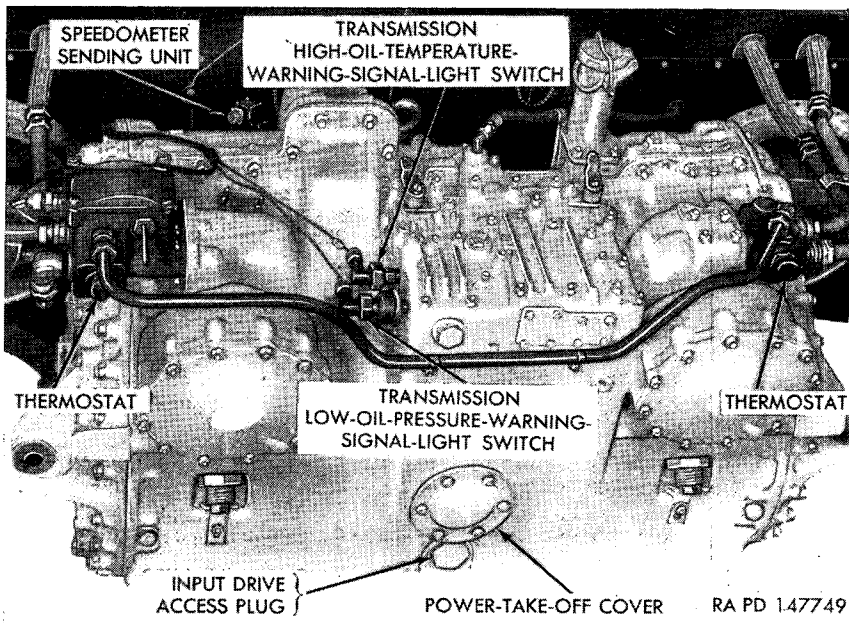

Figure 220. Transmission—rear view.
a. **DESCRIPTION.** The cross-drive transmission (figs. 220 and 221) used in this vehicle is a combined transmission and steering unit. It transmits power directly from the engine to the final drives and track drive sprockets. The transmission is controlled by the driver by means of a manual control lever (fig. 10), service brake pedal (fig. 9), and a hand brake lock handle (fig. 10).
- (1) Characteristics of the cross-drive transmission include hydraulic torque converter, split torque drive, variable steering, and built-in disk-type service brakes. It delivers engine power to the vehicle final drive, at an output torque automatically varying according to driven-load conditions.
- (2) There are two forward speed ranges and one reverse. Steering is possible in all drive ranges and in neutral. Steering in neutral causes the vehicle to spin in place, the tracks turning in opposite directions.
- (3) Accessory drive gears in the transmission provide power to drive fans for cooling the oil in the oil coolers.
- (4) Supplied with each transmission is a manual control box installed in the drivers' compartment and connected to the cross-drive transmission through mechanical linkage. The driver controls both steering and drive range shifting by operating the manual control lever on the manual control box.